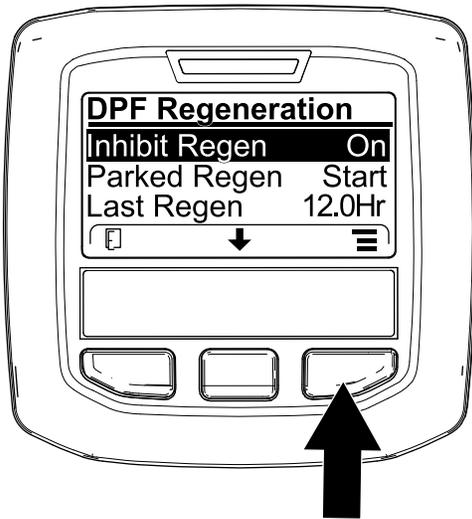
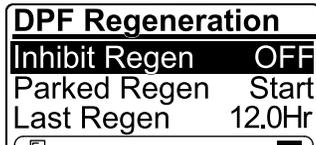

Figure 39
Figure 40
1. Access the DPF Regeneration menu, press the center button to scroll down to the INHIBIT REGEN option, and press the right button to select the Inhibit Regen entry (Figure 39).
- Press the right button to change the inhibit regeneration setting from On to Off (Figure 39) or from Off to On (Figure 40).